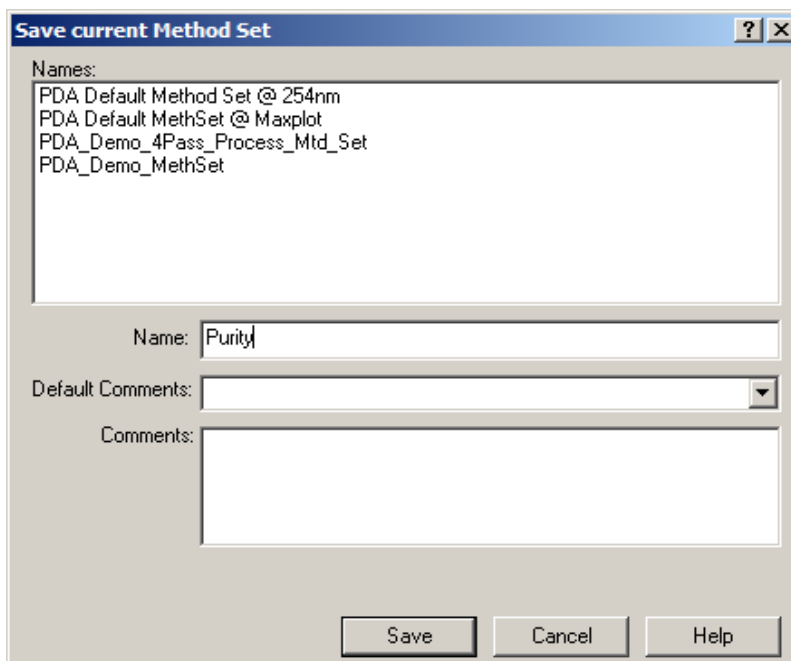

Figure 3-20 Save Current Method Set Dialog Box
4. Select **File > Save As > Method Set** to open the Save current Method Set dialog box (Figure 3-20).